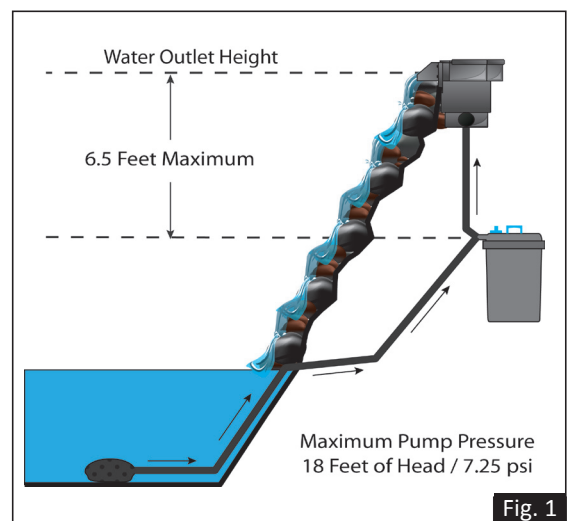

Fig. 1
To insure that your CPF filter functions properly and is not damaged due to excessive head pressure please use the following installation guidelines (Fig. 1).
5. Connect the hose that will return the filtered water back to the pond to the water outlet with a Female Hose Tail Adapter and a gasket (either the Black or Clear adapter can be used). This hose can be used to supply a waterfall or steam but do not exceed the Installation Guidelines in Fig. 1.